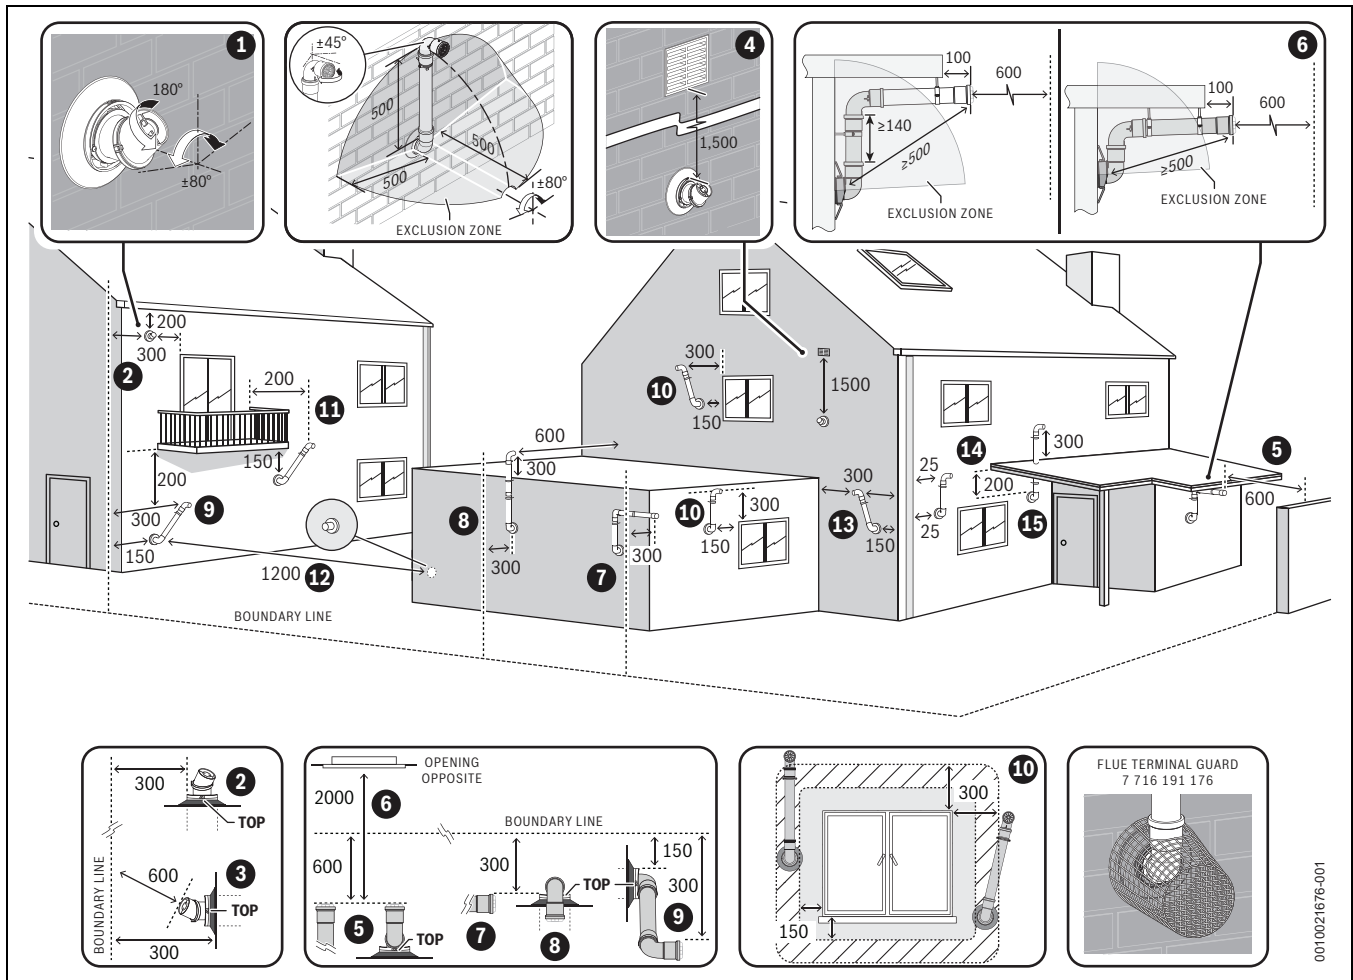

Fig. 31 Plume re-direct and plume management terminal positions
- ▶ Refer to “Horizontal flue terminal positions” for all concentric flue terminal positions unless the flue position is specified in figure 31 “Plume re-direct and plume management terminal positions”.
Key to figure 31